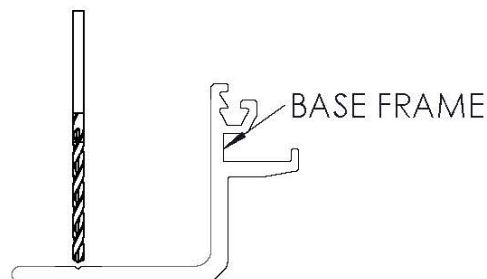

FIGURE 1
1. Drill 3/16" holes into base frame along a line 1/2" from the leg edge. Holes should start 2" from each end and be spaced 18" o.c. **See Figure 1**